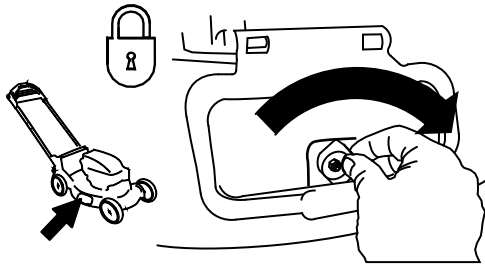

Figure 26
**Important:** Lock the side-discharge deflector after you close it (Figure 26).